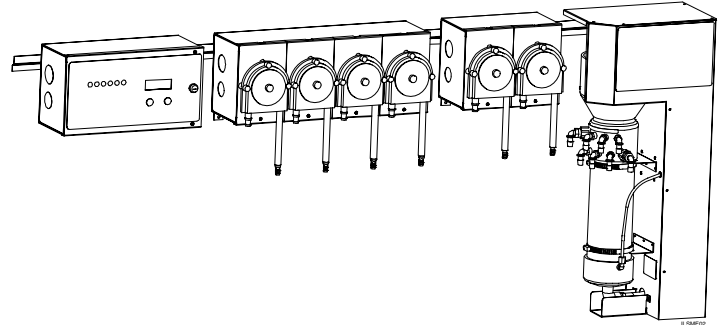

Figure 2. Components
2. In order from left to right, hang the Controller, the Peri Pump Modules, and the Transport Module on the rail(s) as shown in Figure 2. Temporarily leave about 1 inch between each section for making the electrical connections.